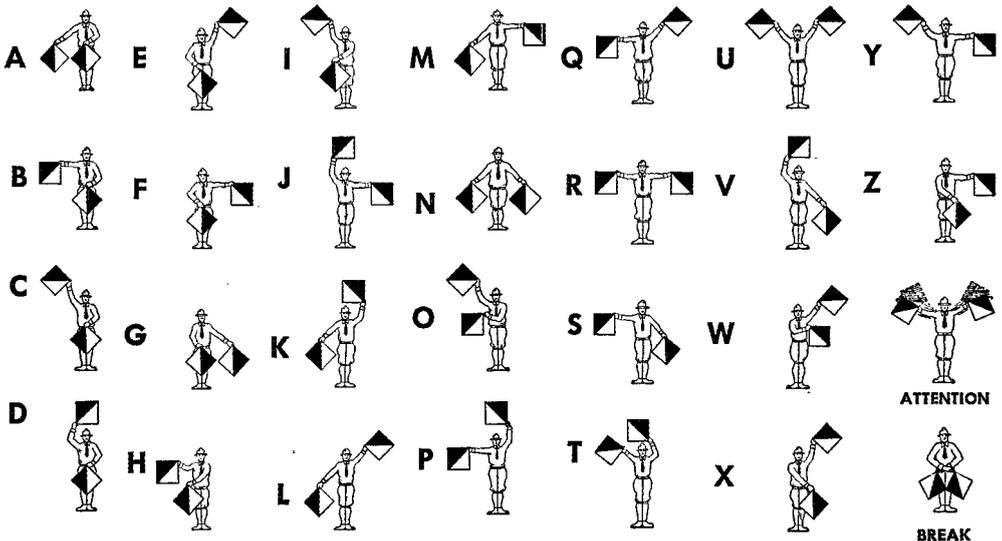

Fig. 1 — The Semaphore alphabet.
Fig. 1 — Block diagram of the automatic frequency control motor-drive unit. Right-angle drive reduction gear is Millen 10000 worm drive; second reduction gear is 2 to 1, giving 32:1 overall reduction or approximately 5 r.p.m. condenser rotation.
The essential arrangement is shown by the block diagram, Fig. 1. In its simplest form,  $X_1$  is a switch and  $X_2$  the contacts (normally closed) of the control circuit relay. The motor starts (and the clutch engages) when  $X_1$  is closed, and stops again (effectively, in that the power is shut off and the clutch releases) when the frequency of the v.f.o. coincides with the receiver setting. The system becomes fully automatic only when  $X_1$  is replaced by push-button control of a motor-starting relay, an extra pair of contacts being wired in parallel to keep the motor running until the circuit breaker,  $X_2$ , is actuated. A similarity to the familiar push-to-talk control will be evident at once.
lights, signal arms, etc., are used on occasion) by which the message is spelled out in accordance with the basic alphabet shown in Fig. 1. There being no numerals or special characters other than those for "Attention" and "Break," all numbers and symbols are spelled out in full. Special meanings can, of course, be given certain letters by prearrangement, and code groups are often used to shorten transmission time. The standard letter symbols encountered in radio work are applied for this purpose. In fact, you can usually use radio abbreviations with any of the visual signalling methods and not be far wrong.
From this point on, if necessary, by-pass condensers from various brush holders to frame, as shown in Fig. 1, will bring the hash down to within 10 to 15 per cent of its original intensity, if not entirely eliminate it. Most of the remaining noise will be reduced still further if the high-power audio stages which manufacturers insist on hanging in their receivers are cut out and a pair of cans tied right into the second detector!
**Fig. 1** — **W8BQ** indicates connections for eliminating interference from gas-driven generator plants.  $C_1$  should be  $1 \mu\text{fd.}$ , 300 volts, paper, while  $C_2$  may be  $1 \mu\text{fd.}$  with a voltage rating of twice the d.c. output voltage of the generator. "X" indicates an added connection between the slip ring on the grounded side of the line and the generator frame.